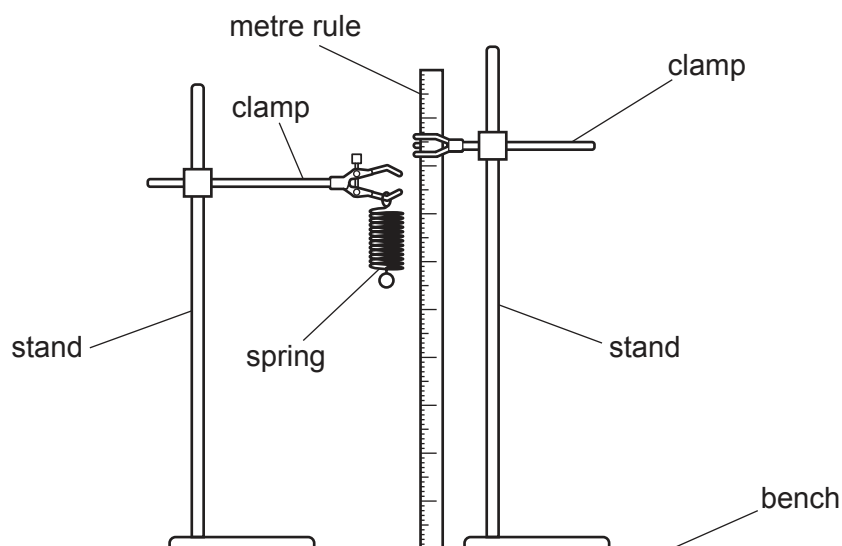

Fig. 5.1
- The apparatus is to be set up for candidates as shown in Fig. 5.1. The spring must be sufficiently high above the bench so that when the 5.0 N load is suspended from the spring, the bottom of the load is above the surface of the bench.
Restore the apparatus to the set-up shown in Fig. 5.1.